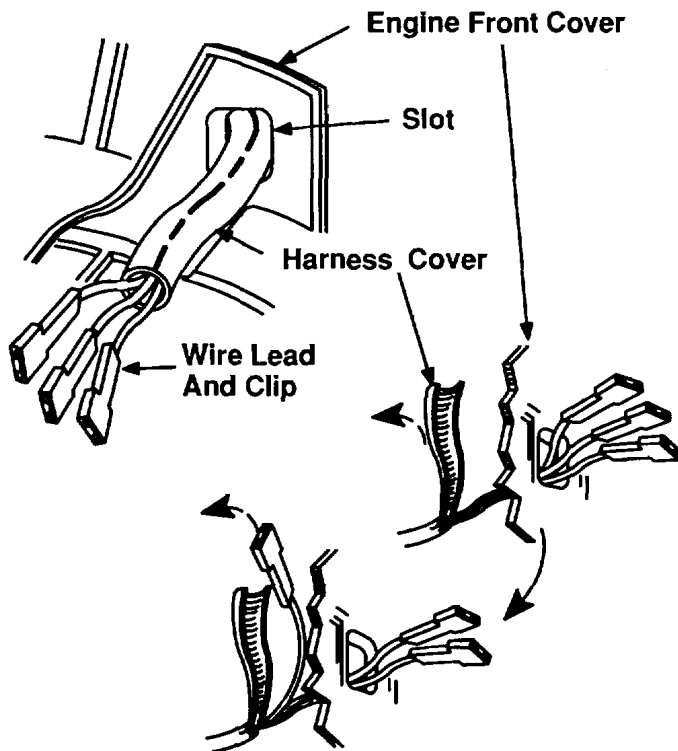

Figure 7-17. Passing Alternator Harness
7. Very carefully, slice through the harness cover of the alternator, making sure not to cut insulation of wire leads contained within the insulating cover. Make cut to about 4-inches back from clips, Fig. 7-17.